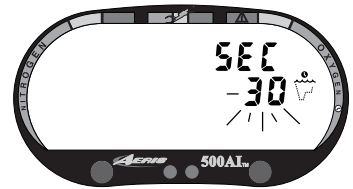

Fig. 29 - Set Sampling Rate
- the Rate setting appears flashing (Fig. 29)